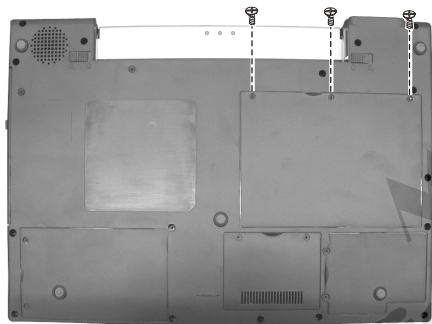

Figure 2-4 Remove three screws
2. Remove three screws fastening the heatsink cover. (Figure 2-4)